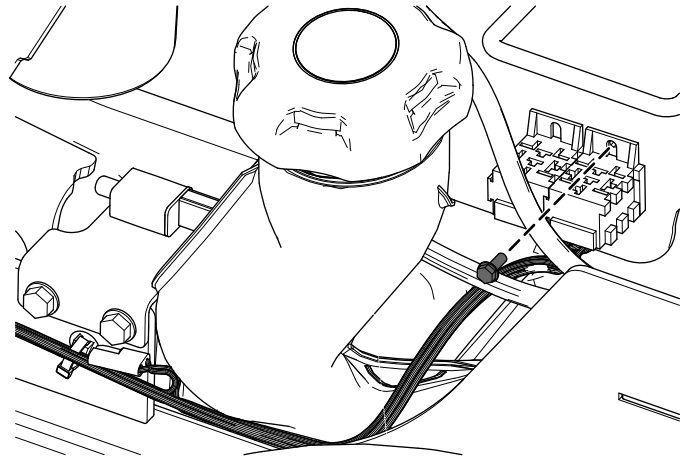

Figure 20
4. Secure the wire harness near the relays using the taptite screw (Figure 20).